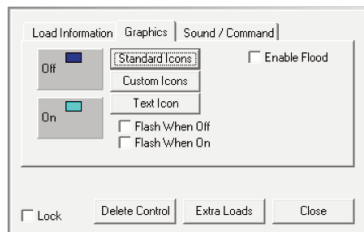

Figure 2.4
8. Select the Graphics tab as shown in figure 2.4 to start defining the icon appearance.